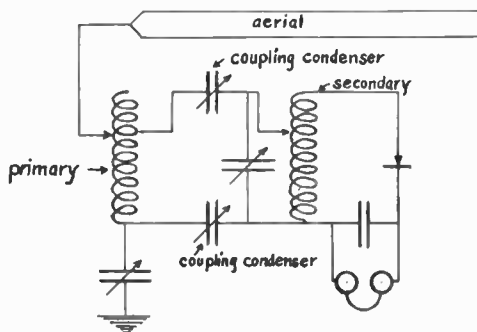

Fig. 61.—Statically (or Capacity) Coupled Receiver
4. Capacitatively coupled receiver (Figure 61).